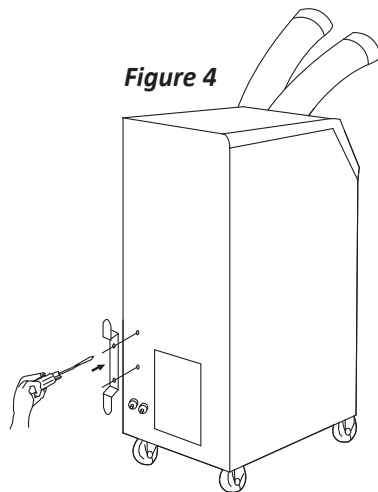

Figure 4
3. Use screws (enclosed inside of accessory box with cord holder) to install the cord holder in the unit as shown in Figure 4.